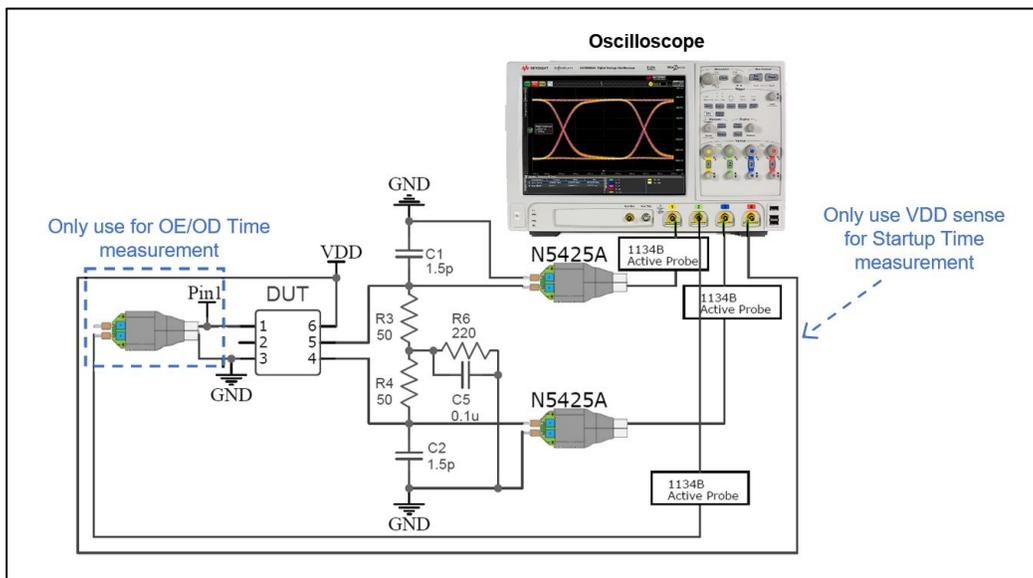

Figure 7. Test setup to measure FlexSwing Waveform Characteristics, Current Consumption[17], Output Enable/Disable Time, and Startup Time
- 14. See Figure 7 for the test setup to measure LVPECL Current Consumption with Termination 1 or without Termination.